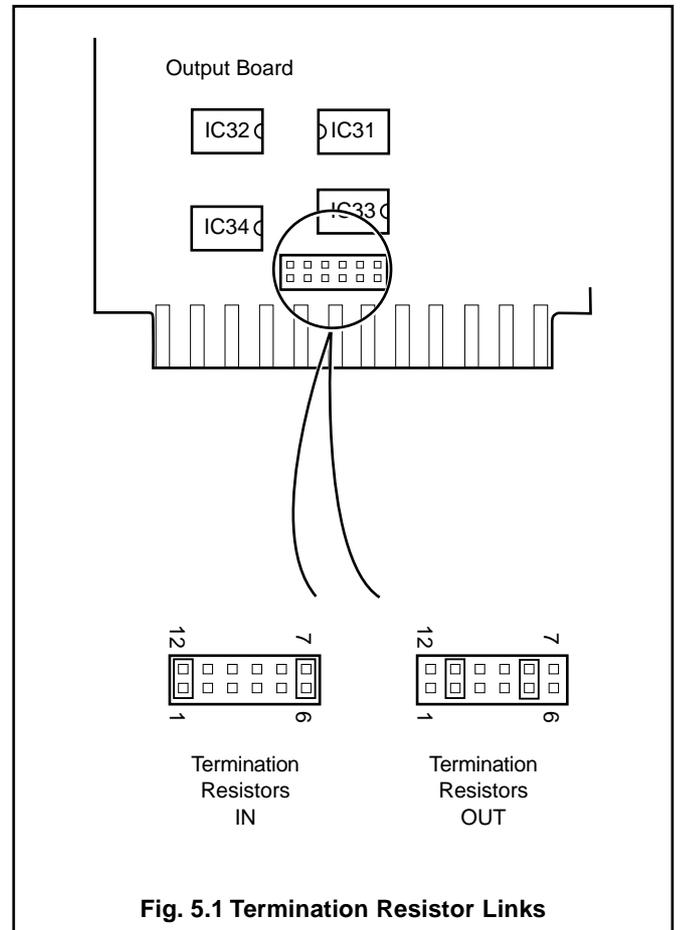

Fig. 5.1 Termination Resistor Links
For all aspects other than serial data transmission the transmitter is set up as shown in the relevant Instruction Manual. Unless otherwise requested, the instrument is despatched with a transmission rate of 9600 baud and transmission line termination resistors linked-out. If the resistors are to be linked-in (see Fig. 5.1) carry out the following Section.
5.1 Termination Resistors – Fig. 5.1
For long transmission lines, termination resistors are required on the last 8240 Monitor in the chain and at the host computer/ computer terminal. Under normal operating conditions the resistors are required at the last 8240 receive inputs only – see Fig. 4.1. The transmitter's resistors are selected using plug-in links – see Fig. 5.1.
Switch off the supply and gain access to the output board – see relevant Instruction Manual. Set the termination resistor links as shown in Fig. 5.1.